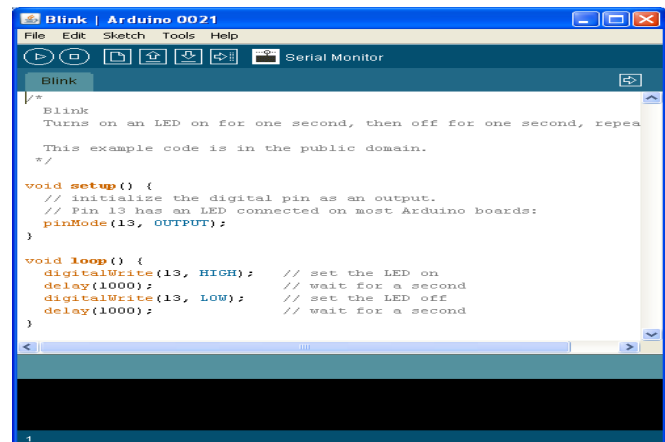

Fig. 6:
Step4: Depending upon the program we can either active or deactivate the serial monitor option by double clicking on “Serial Monitor” icon. See Fig. 6: